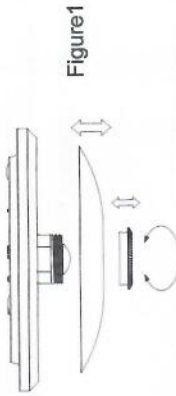

Figure1
- Unscrew the plastic screw nut and remove the PC lampshade. (refer to figure1)